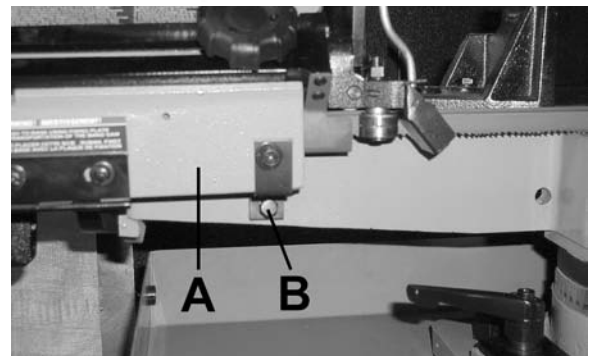

FIGURE 3
When this band saw comes out of its wooden crate, the head (A) Fig.3 is bolted to the base, undo bolt (B) to unlock and to raise head.